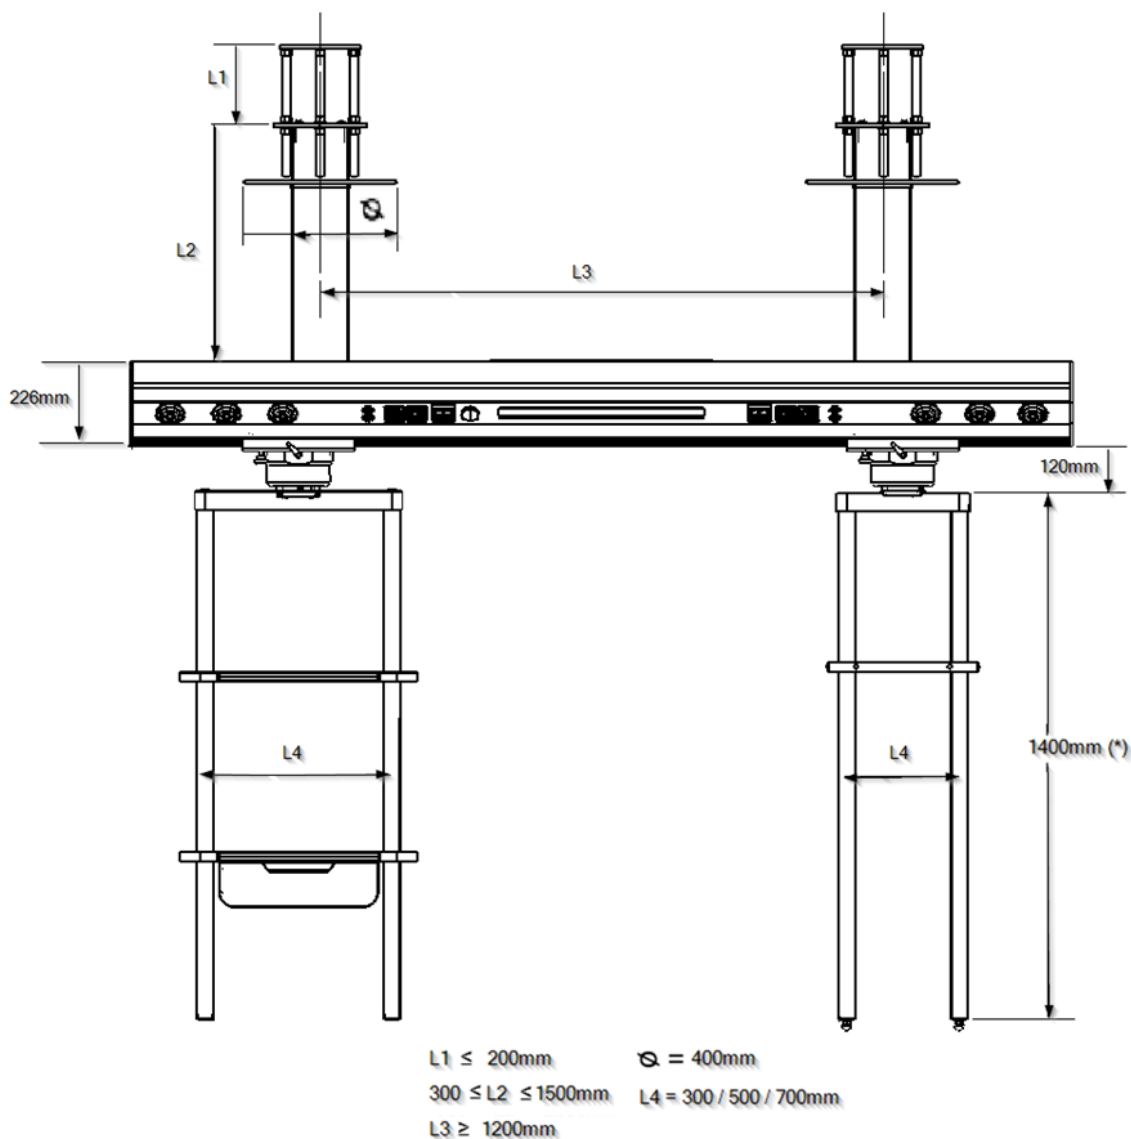

Fig.8 Diagram of suspended ATLAS with different elements
- To increase the braking force on the rotation axis, turn the rotation brake lever clockwise as shown in figure 8.
- To reduce the braking force on the rotating shaft, turn the rotation brake lever counterclockwise, in the opposite direction to that shown in figure 8.
- To increase the braking force on the drive shaft, turn the rotation brake lever clockwise as shown in figure 8.
- To reduce the braking force on the drive shaft, turn the rotation brake lever counterclockwise, in the opposite direction to that shown in figure 8.